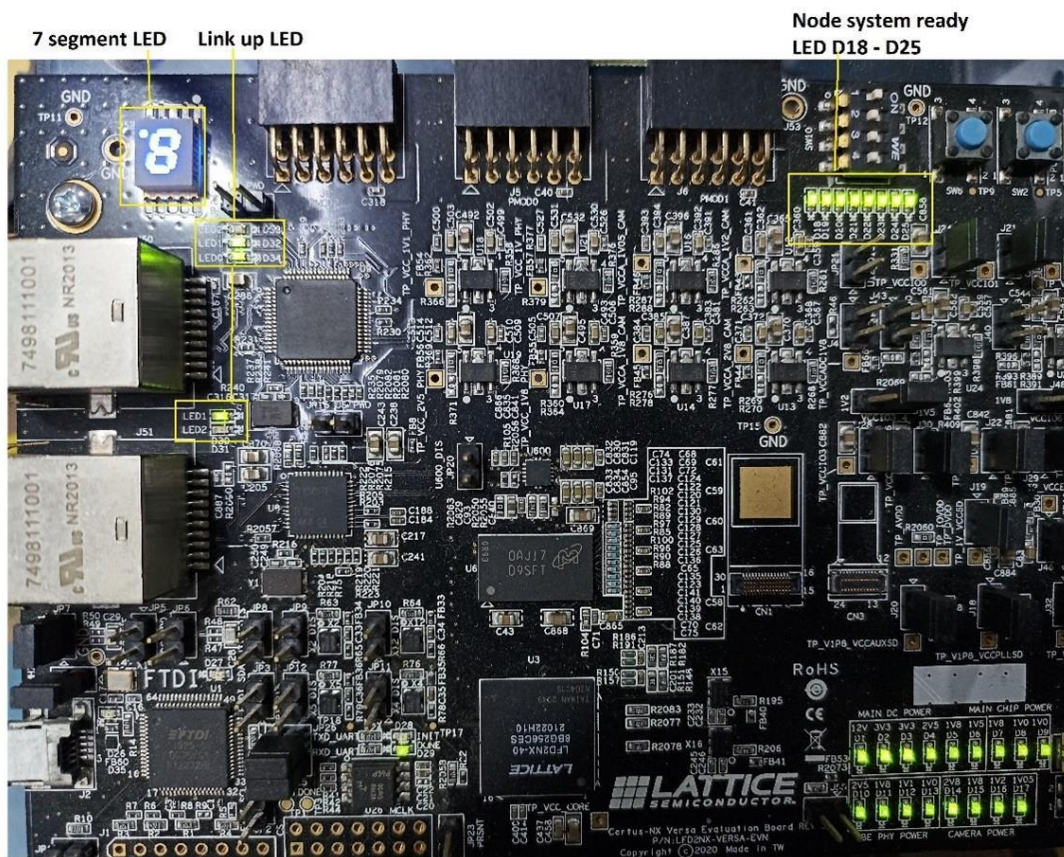

Figure 4.3. Node System Ready LED
- If the 7-segment LED is light up (see Figure 4.3), the Ethernet is connection established.